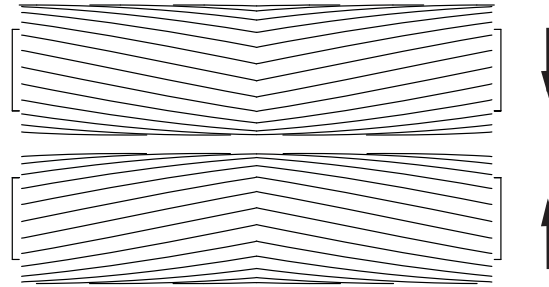

Fig. 6: Scrub Brush pattern
7. Slide the new or rotated scrub brush into the scrub deck. Insure that the V-shaped bristle patterns on the brushes are pointing toward each other as viewed from above. (See Fig. 6)